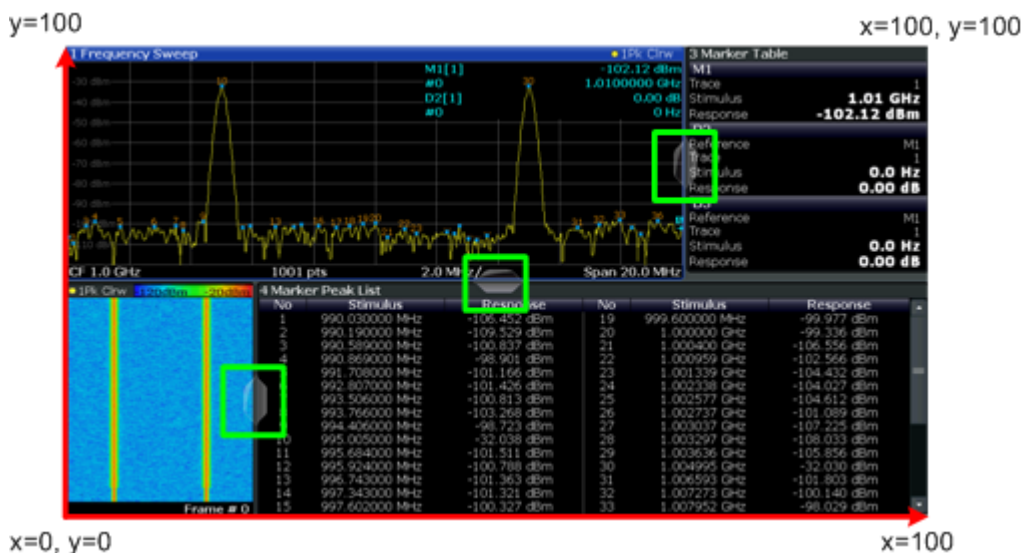

Fig. 10-1: SmartGrid coordinates for remote control of the splitters
- <Position> New vertical or horizontal position of the splitter as a fraction of the screen area (without channel and status bar and softkey menu). The point of origin (x = 0, y = 0) is in the lower left corner of the screen. The end point (x = 100, y = 100) is in the upper right corner of the screen. (See figure 10-1.)